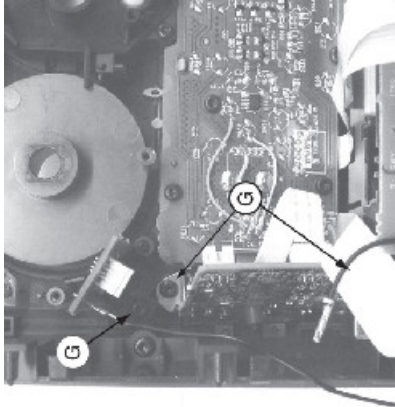

Figure 15
- 7) Loosen 3 screws G (see Figure 15) to remove the Headphone Board and Game Port Board.